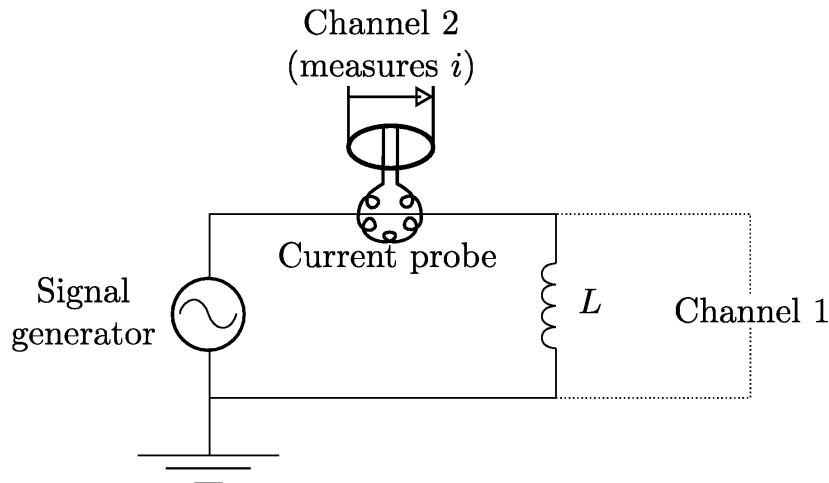

Figure 7: Determining the reactance of an inductor.
- Set up the circuit shown in Figure 7. Set the signal generator to a frequency of 15 kHz and the output voltage to maximum.
- Measure and record the DC resistance, R_L , of the inductor with the digital LCR meter. Set up the circuit shown in Figure 7 again. Set the signal generator to a frequency of 15 kHz and a peak-to-peak voltage of 10 V.